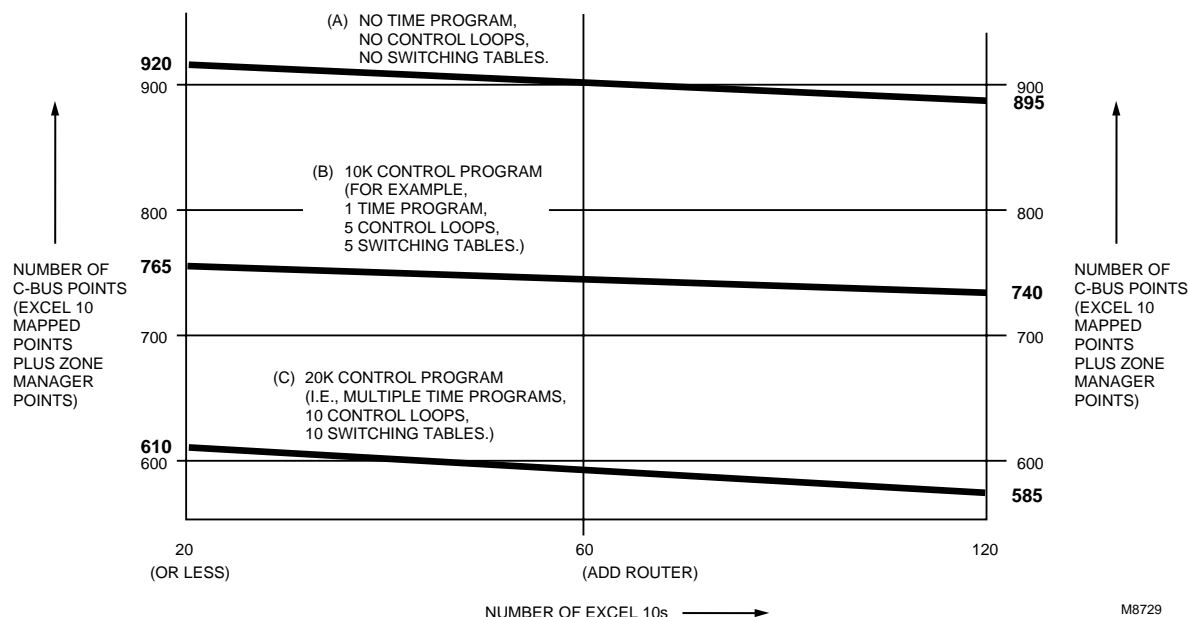

Fig. E-1. Point capacity estimate for Zone Manager.
Memory size approximation is shown in Fig. E-1: (All sizes in bytes.)
- c. 20K of control logic (multiple time programs, ten switching tables, and ten control loops). Use Fig. E-1 to determine the number of Excel 10 Controllers that can be connected to the Zone Manager.